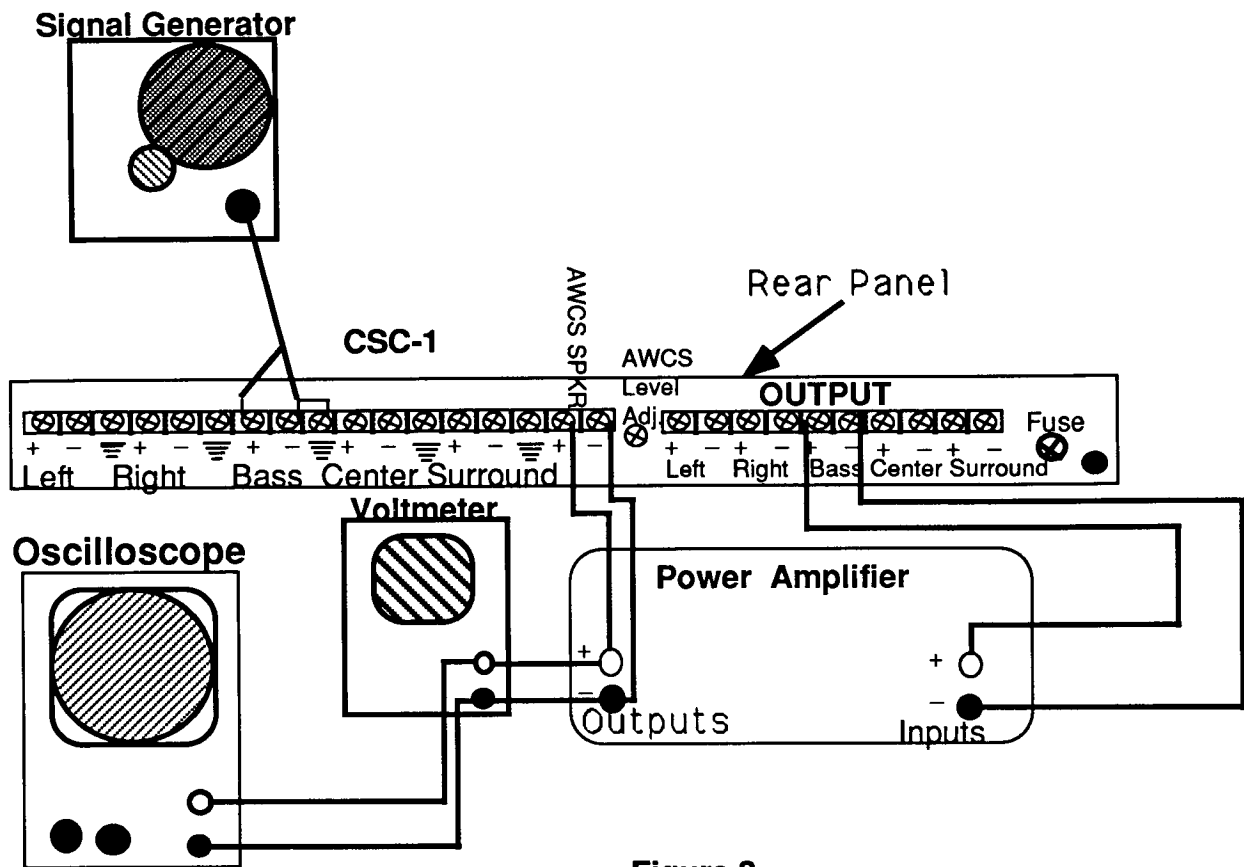

Figure 3.
1. Connect the CSC-1 as seen in Figure 3.